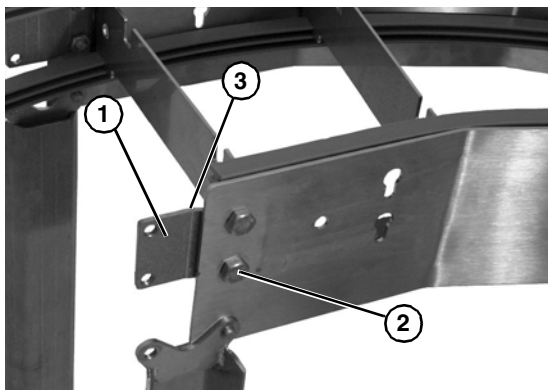

Figure 14
1. For joining curved to straight sections, install offset connecting plates onto curved section (**Figure 14, item 1**) with four hex head bolts (**Figure 14, item 2**) with heads of bolts outside of curved section.
2. Ensure that the offset of connecting plates is to the inside of curved section (**Figure 14, item 3**).